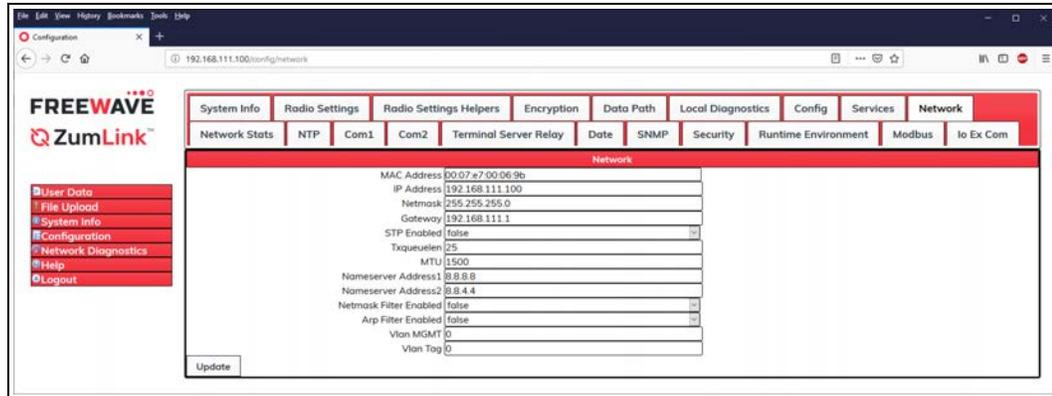

Figure 274: Network window
6. Click the **Network** tab to access the **Network** parameters. Figure 274